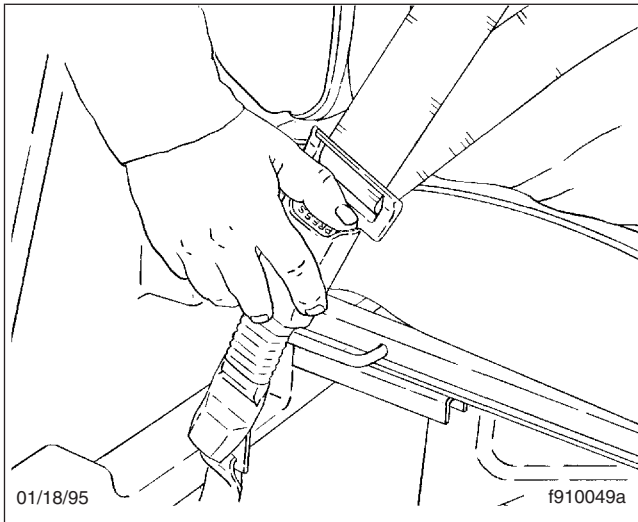

Fig. 7.8, Releasing the Three-Point Seat Belt
6. To unbuckle the seat belt, press the release button on the buckle. See Fig. 7.8.
If equipped with a Sliding Komfort Latch, unbuckle the seat belt (Fig. 7.8), then tug on the shoulder belt to release the Sliding Komfort Latch, or press the Sliding Komfort latch to the "OFF" position, then unbuckle the seat belt.
If equipped with a Komfort Latch, unbuckle the seat belt (Fig. 7.8), then release the Komfort Latch by giving the shoulder belt a quick tug. If you lean forward against the shoulder belt, the Komfort Latch will automatically release, and will need to be reset.